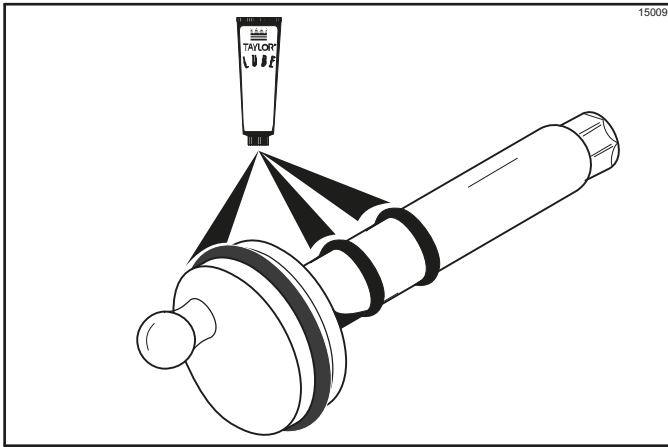

Figure 6-31
13. Slide the large black O-ring and the two smaller black O-rings into the grooves on the drive shaft. Thoroughly lubricate the O-rings and shaft. **Do not** lubricate the hex end of the shaft. (See Figure 6-31.)